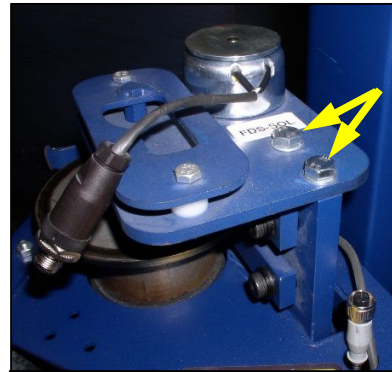

Figure 7.64
4. Use the 13 mm wrench to remove the (2) M8 fasteners on the solenoid assembly (Figure 7.64).